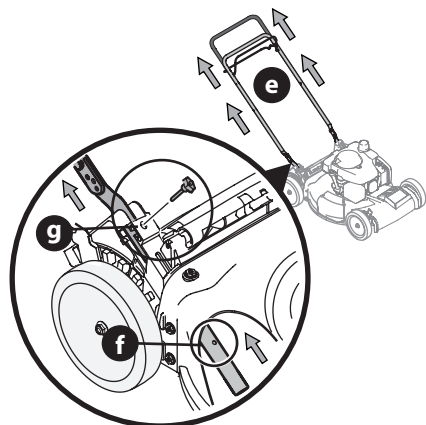

Figure 3
4. Pull upward on the handle (e) (Figure 3) until holes in lower handle (f) line up with holes in handle brackets (g) (Figure 3 inset, deck cutaway).